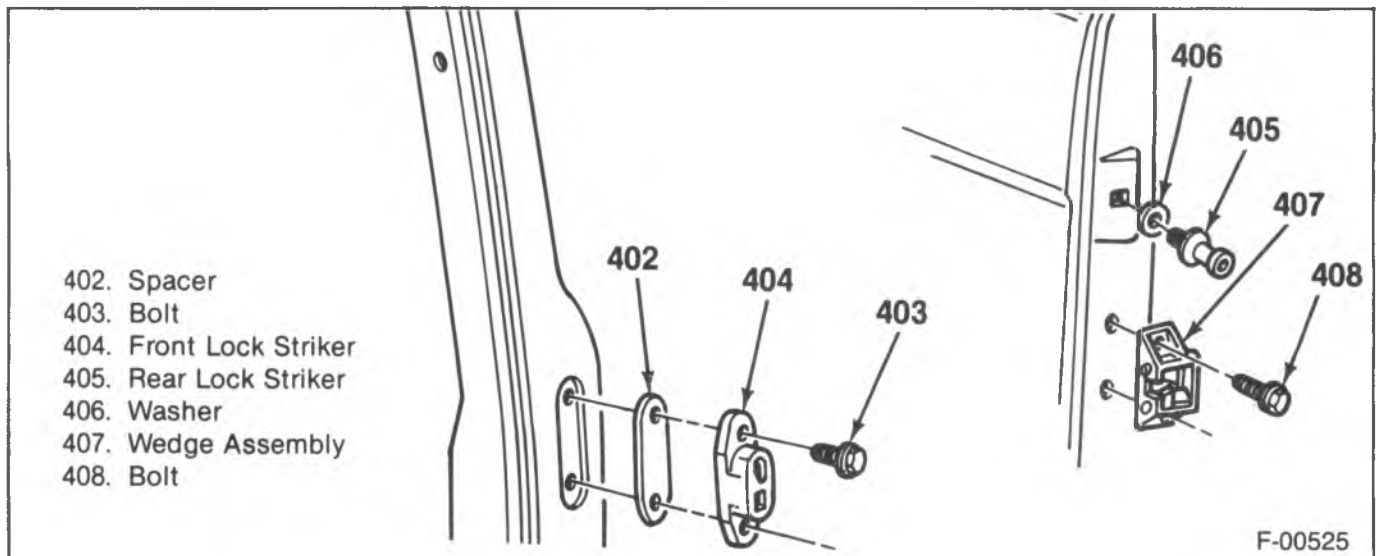

Figure 90—Front and Rear Lock Striker
Remove or Disconnect (Figure 90)
**Install or Connect (Figure 90)**
- Rear door wedge assembly (407).
- Rear lock striker (405) using J-23457.
- Front lock striker (404).
IN AND OUT ADJUSTMENT (Figures 90 through 92)
- Remove the front (404) and rear (405) lock strikers (figure 90).
- Install the front (404) and rear (405) lock strikers at the position previously marked (figure 90).
FRONT STRIKER ADJUSTMENT (Figure 90)
REAR STRIKER ADJUSTMENT (Figure 90)